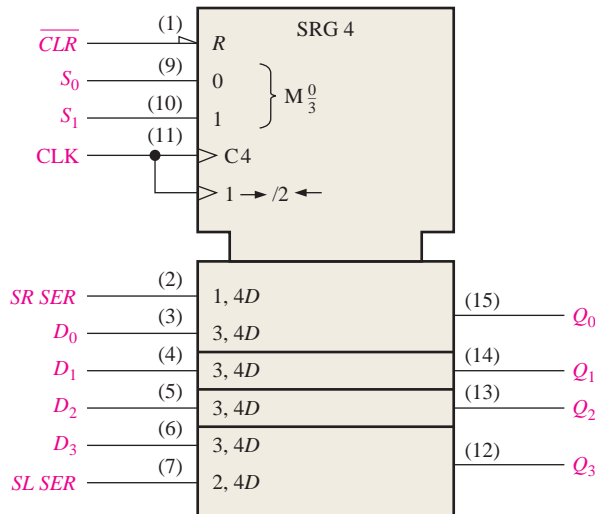

FIGURE 8-38 Logic symbol for the 74HC194.
1. In Figure 8-38, are there any inputs that are dependent on the mode inputs being in the 0 state?